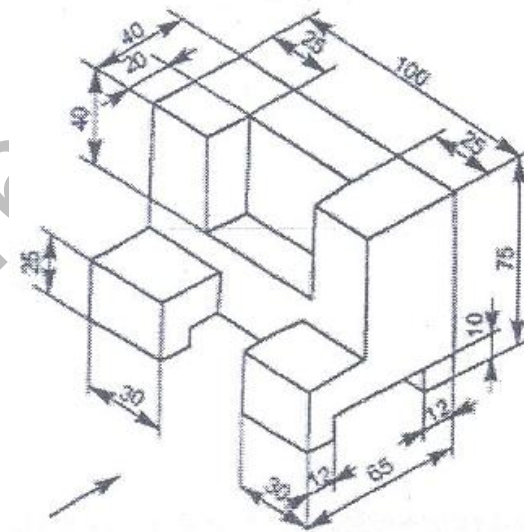

Figure 1
5. Draw the front view and top view for the following figure1.